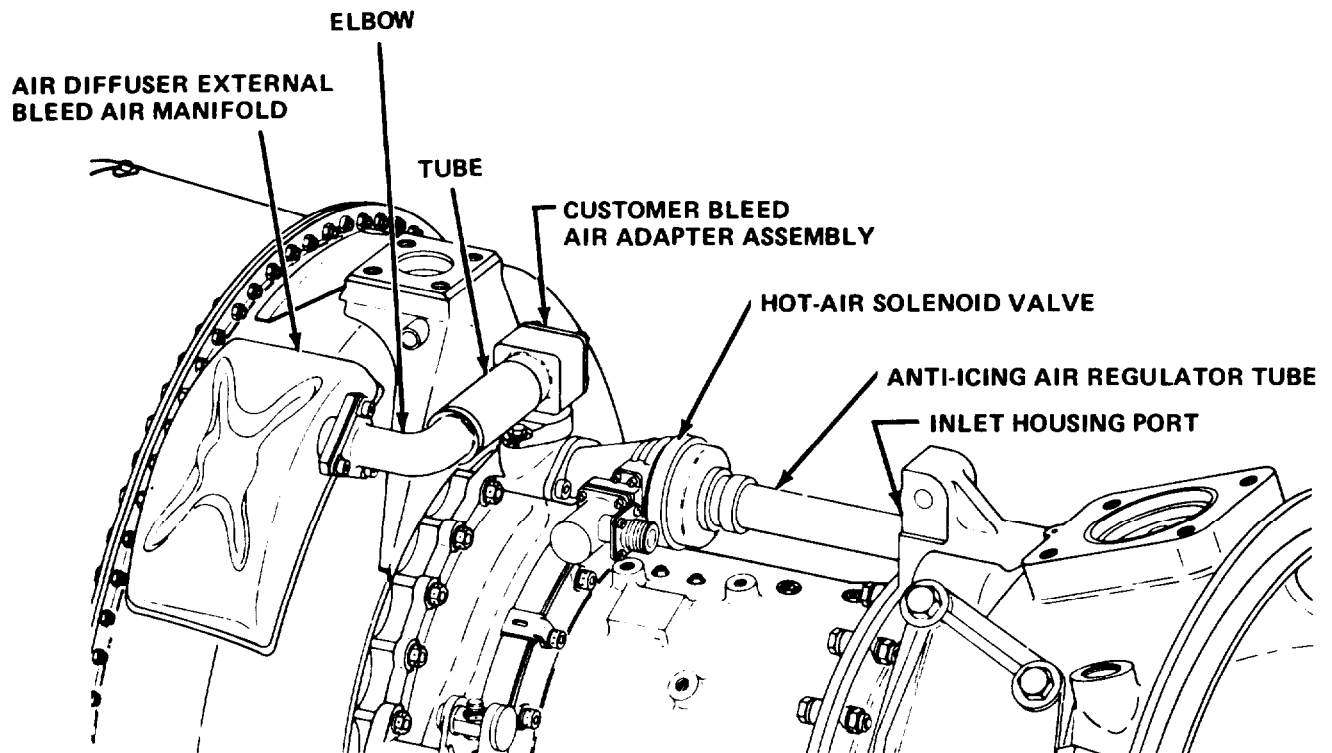

Figure 1-28. Anti-Icing System
**1-27. Anti-Icing System. (See figure 1-28.)**